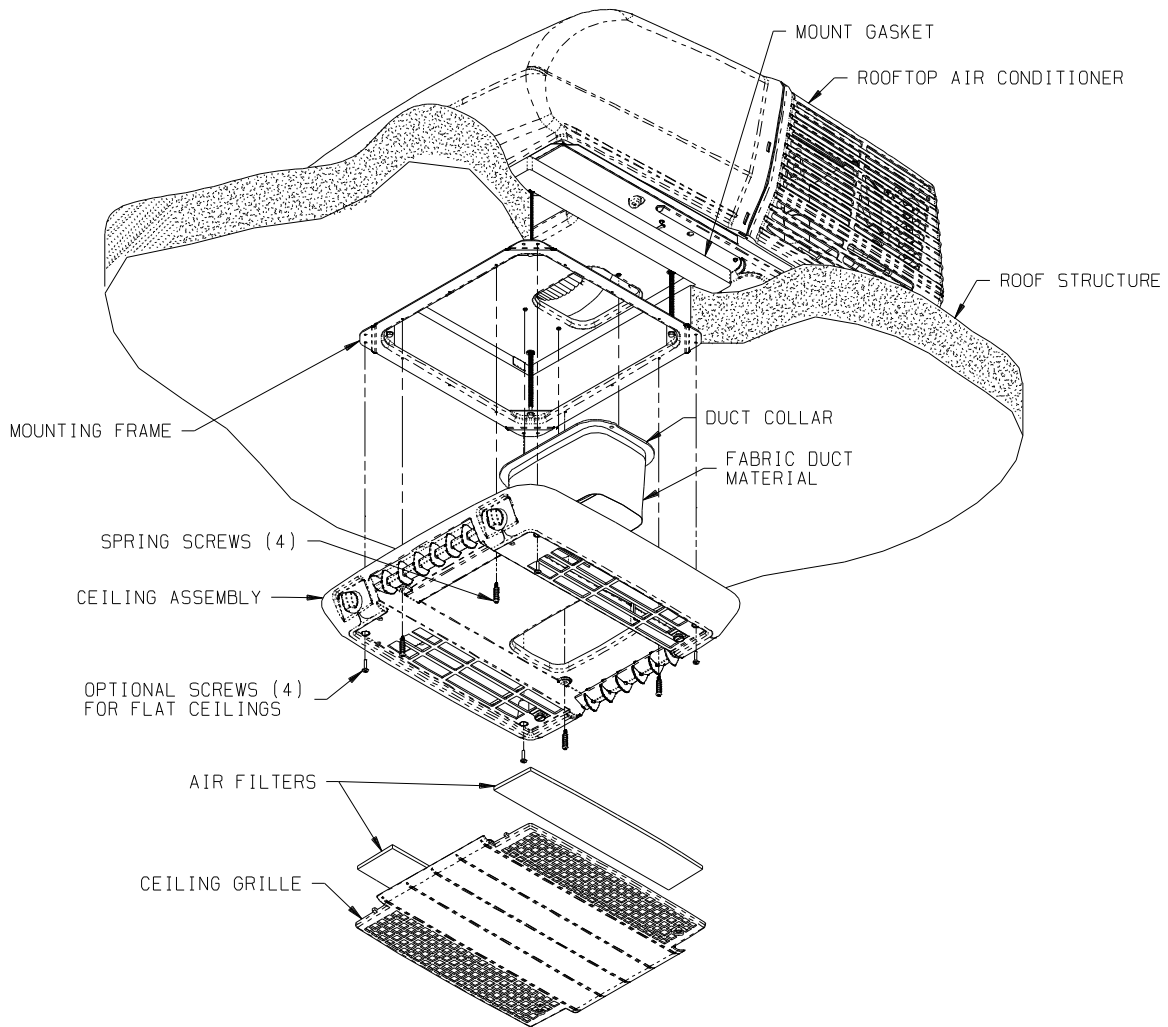

FIGURE 14
- D. Fasten the duct collar to the basepan of the air conditioner with three (3) screws (See Figure 14).
- I. Raise the ceiling assembly and secure to the mounting frame with 4 provided shoulder screw/spring assemblies. The front two screws should pass through the clearance holes in the metal control box shield (See Figure 14).